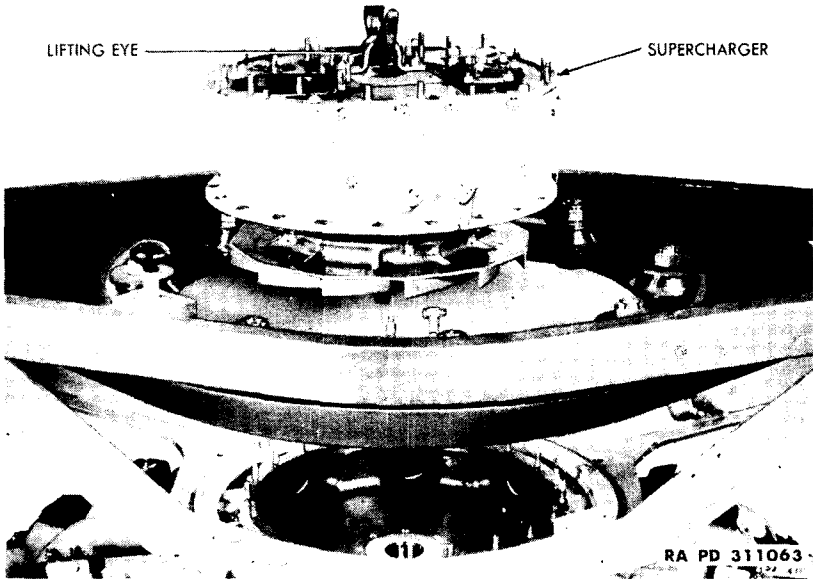

Figure 21 — Removing Supercharger, Using Lifting Eye 5A2207
p. Remove Supercharger (fig. 21). Rotate engine stand so that supercharger is in the upward position. Remove nuts securing supercharger rear housing to supercharger front housing. Install lifting eye (5A2207) to supercharger rear cover and lift supercharger from engine. **CAUTION:** *Insure that supercharger is lifted straight off to avoid damage of seal rings.* Remove supercharger front housing and crankcase rear main section by removing bolts that secure front supercharger housing to rear engine support.